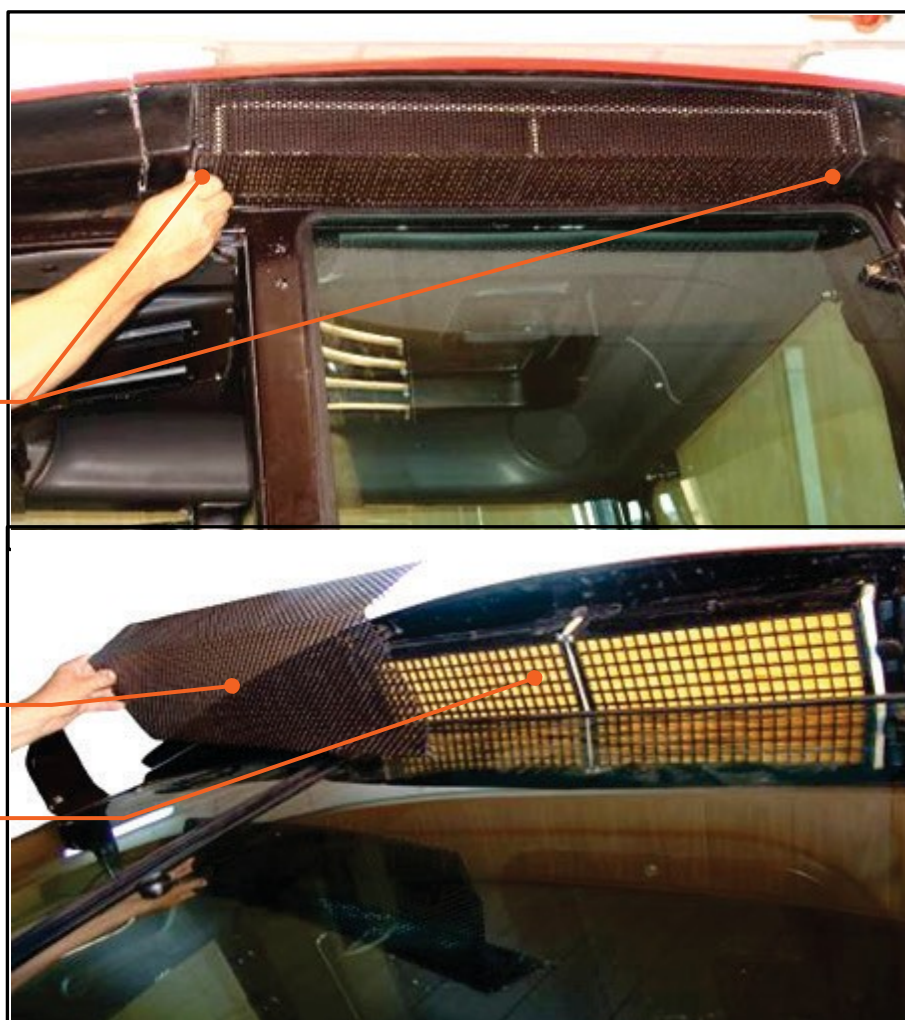

Figure 8.23
**Procedure 15a. Clean the Filter of the Cab Ventilation and Heating System (fig. 8.23)**